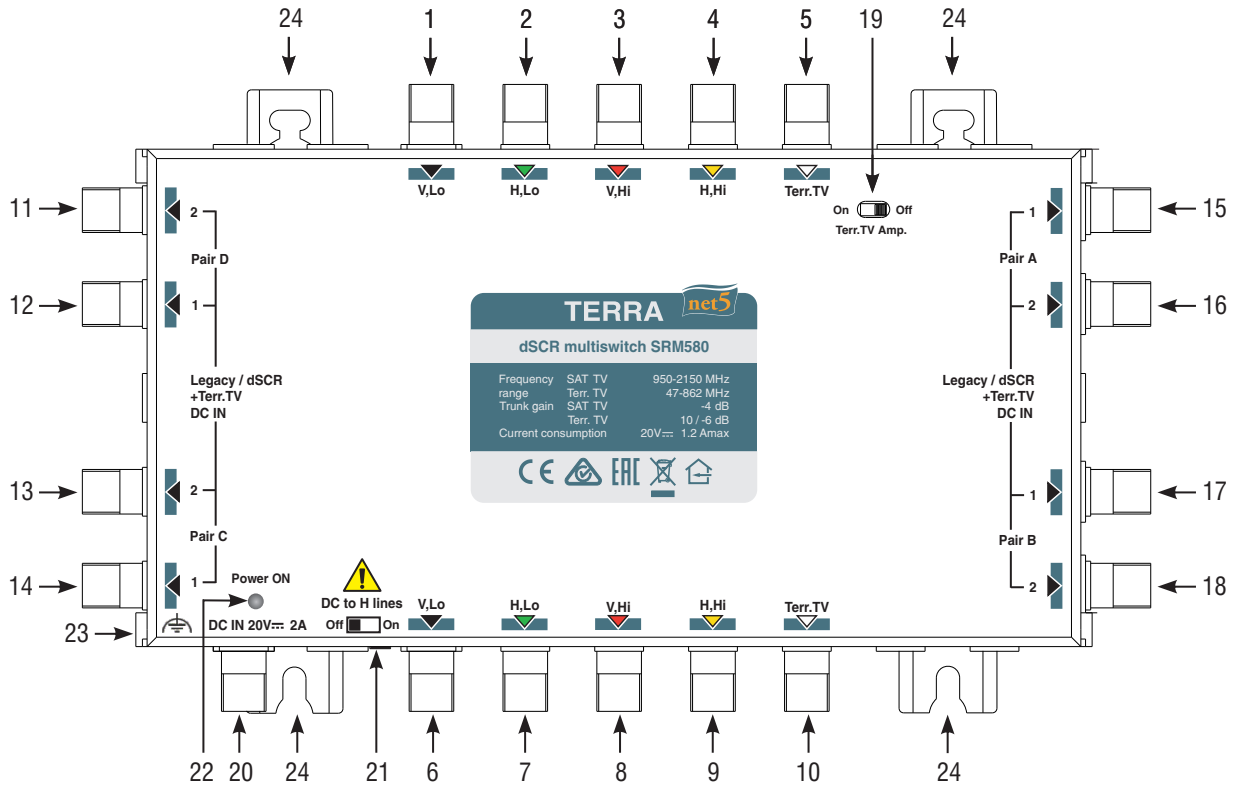

Figure 1. External view of the multiswitch
DO NOT OPERATE THE "DC to H lines" SWITCH (see Figure 1, pos.21) unless you totally understand the power demands of the system and confirmed they are 2 A or less. **ALWAYS LEAVE THE "DC to H lines" SWITCH IN THE "Off" POSITION** when inserting SRM580 into an existing multiswitch installation.
Power ON indication LED (see Figure 1, pos. 22) glows green at any of the 4 powering modes.
1. Bypass mode - switch (see Figure 1, pos. 14) position OFF. DOCSIS signals can pass through.
2. Active mode - switch (see Figure 1, pos. 14) position ON.
2. All outputs are configured to connect **Legacy** STB (+13 V/+18 V/22 kHz), but it switches to **Dynamic mode** SCR/dSCR if receives a DiSeqC command according EN50494/EN50607 (**Active mode**). Output User Bands (UB) are the same in all subscriber outputs (see Table 2).
5. Terr. TV bypass mode switch (see Figure 1, pos. 19) in position “**OFF**” (see “**Technical characteristics**”).
6. DC power to H trunk lines switch (see Figure 1, pos. 21) in position “**OFF**”.